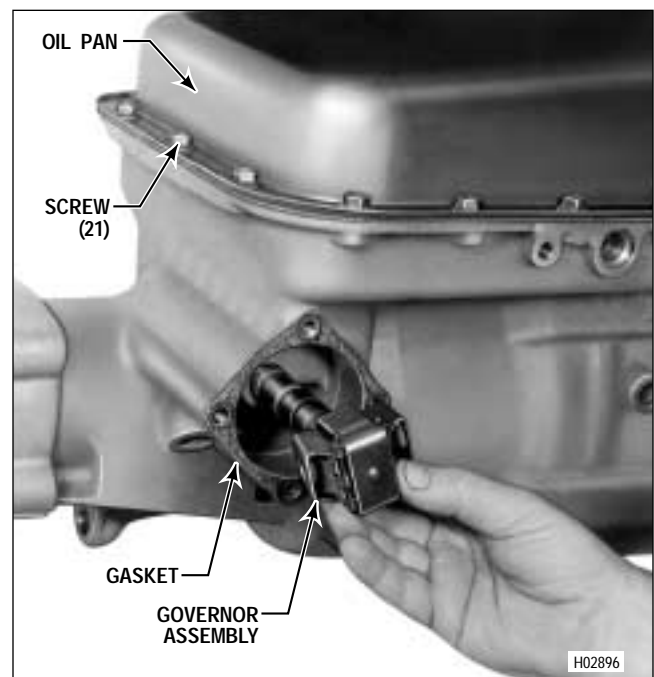

Figure 7-36. Installing Governor Assembly
(1) Install the governor cover gasket onto the transmission housing, using oil-soluble grease to retain it (Figure 7-36).
(2) Install the governor assembly by pushing it inward with a slight rotation (Figure 7-36).